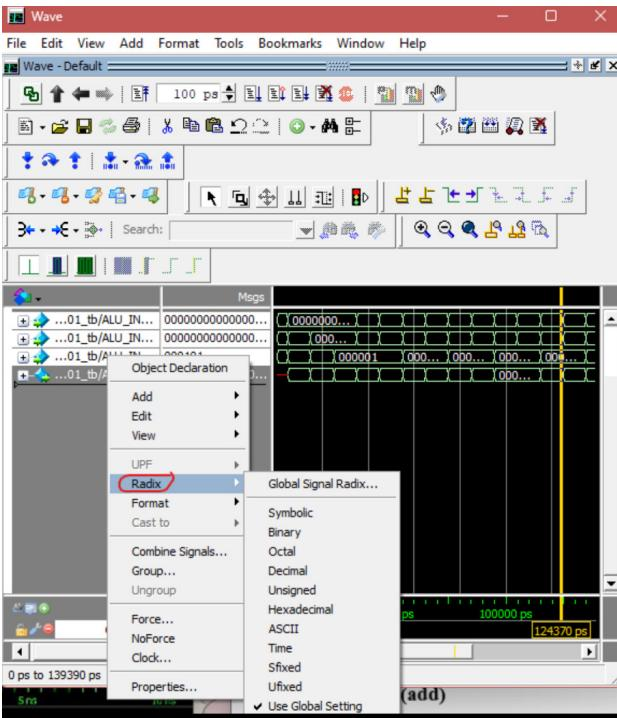

Fig. II.9. Waveform
- Once the Wave windows are open. If another format is needed, select all the signals, right click, click ‘Radix,’ and the options to change to various formats like decimal, binary, or octal as shown, like in Figure II.9 below. Finally, press ‘Run All’(top right) to see the waveforms.